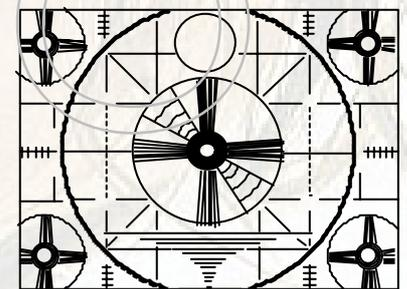

Fig.1-7 PAL monoscope
2. Use the [VOLUME +/-] key of the jig remote control and set the value to either 1D, 1E or 1F. Check that the six circles are true circles. (Fig. 1-7.)